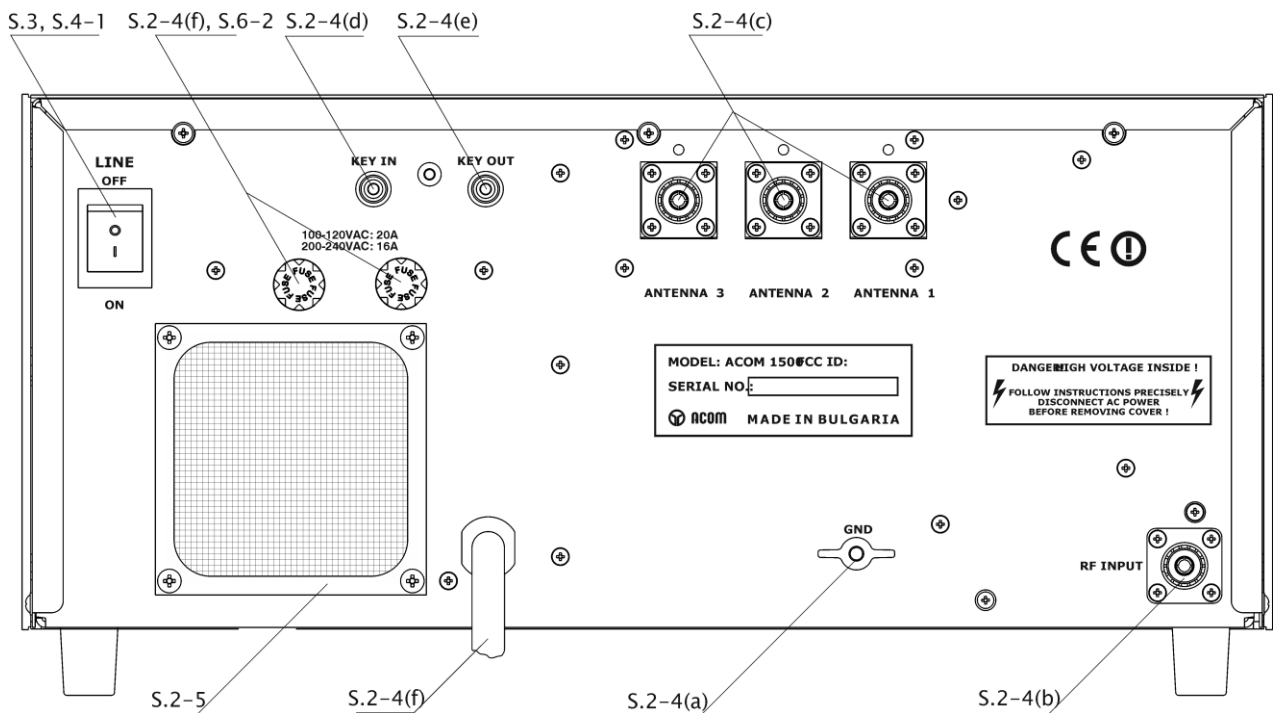
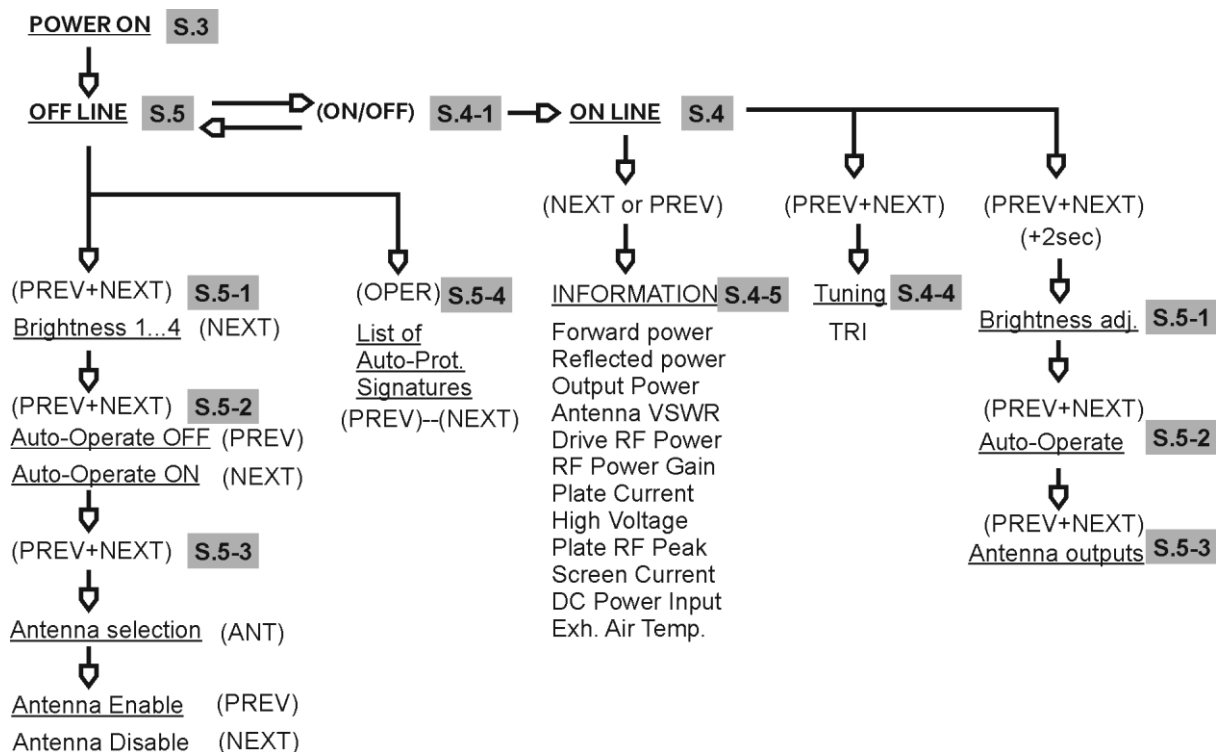

Fig.2-1 Connections
Fig.3-1 ACOM1500 Display and Control
- First, connect the ground stud of the amplifier (on the rear panel, marked GND) to the station's grounding system (Fig.2-1).
This fan (Fig. 2-1) is not necessary in SSB and CW modes, nor in continuous carrier modes (RTTY, SSTV etc.) with carrier down times of maximum 15 minutes and a subsequent pause of 3 minutes. For higher duties or increased ambient temperatures the fan is recommended. The auxiliary fan (92x92x25mm or 92x92x38mm) must be brushless type, 2...5W/24VDC. It may be installed by your dealer or by the manufacturer on request.
After following all instructions in S.2, you can turn ON the main power switch marked "LINE" on the rear panel (Fig.2-1). The LED indicator above the red ON/OFF button located on the front panel must light red and a black inscription "ACOM1500" will appear on the display (Fig.3-1):